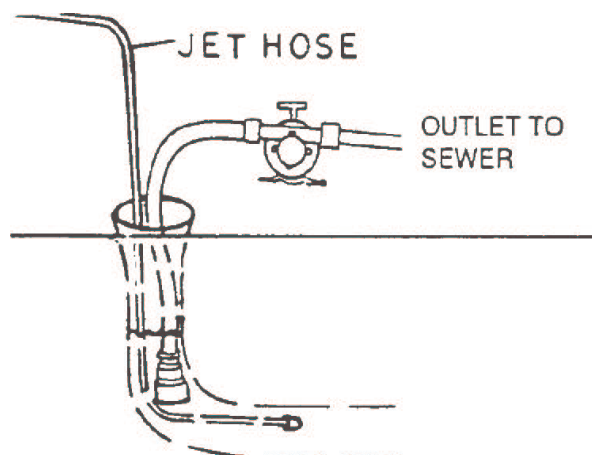

FIG. 7
14. In those rare instances where backflow is created, a bilge pump may be used (see Fig. 7).